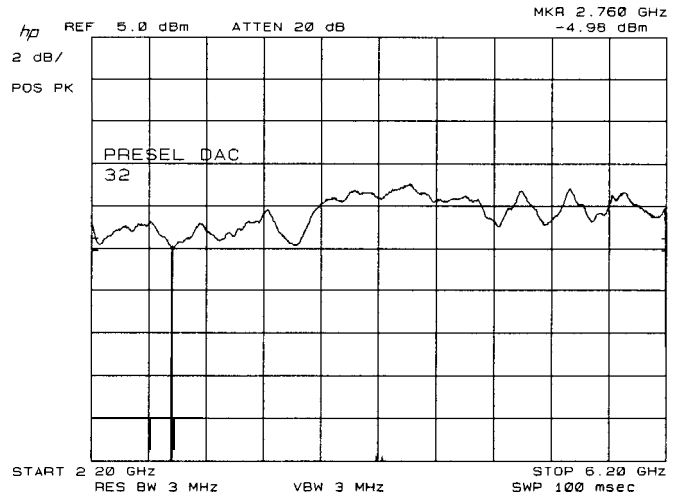

Figure 3-72.
20. On the Spectrum Analyzer (DUT), key in [FREQUENCY SPAN] 0 Hz, [CF STEP SIZE] 100 MHz, [CENTER FREQUENCY]. Using the DATA knob and step keys, tune the A11A3 YTO to position the TRACE A signal at the lowest point on the TRACE B waveform on the display of the second spectrum analyzer. See Figure 3-72. Key in [SAVE] 5 on the Spectrum Analyzer (DUT).
23. On the Spectrum Analyzer (DUT), key in [RECALL] 5, [CENTER FREQUENCY]. Use the DATA knob to tune the A11A3 YTO to position the TRACE A signal at the lowest point on the TRACE B waveform on the display of the second spectrum analyzer, as shown in Figure 3-72.